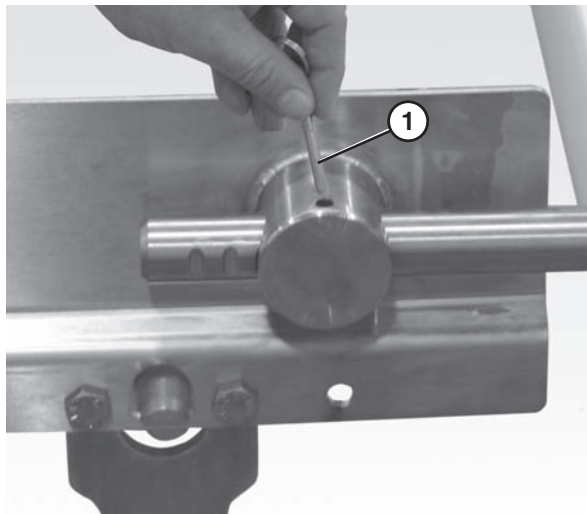

Figure 61
1. Remove the pull pins (Figure 61, item 1) on the tension end of the conveyor to release tension on the belt.